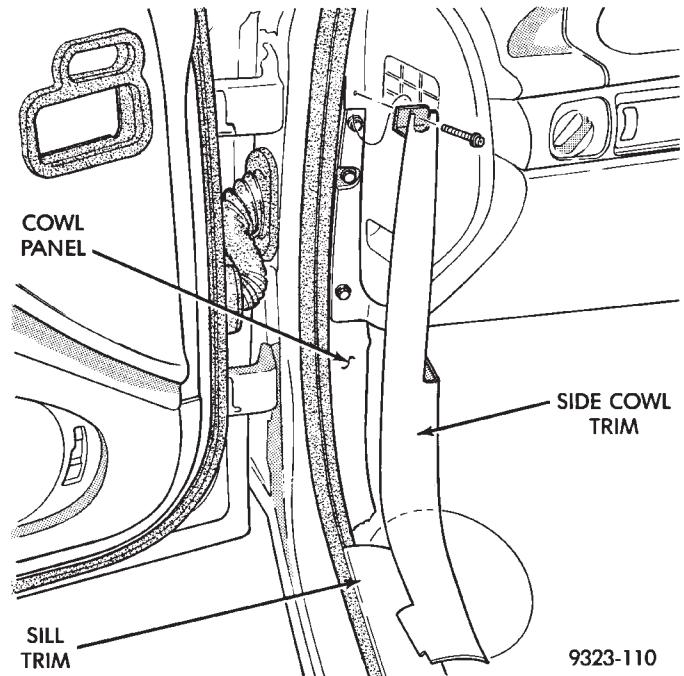

Fig. 57 Side Cowl Trim
- (1) Remove screw holding top of side cowl trim to A-pillar.
- (2) Remove door sill trim as necessary to clear cowl trim removal path.
- (3) Remove screws holding side cowl trim to cowl panel (Fig. 57).
- (4) Separate side cowl trim from vehicle.